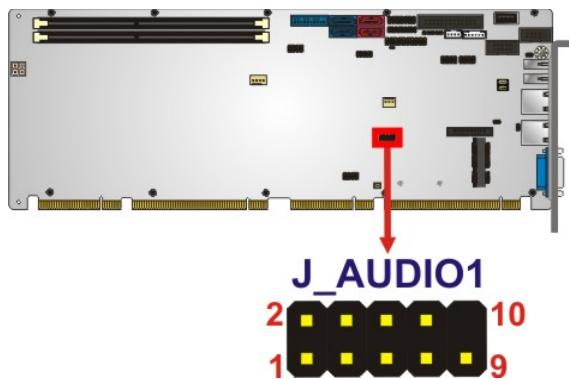

Figure 3-3: Audio Kit Connector Location
**CN Location:** See Figure 3-3